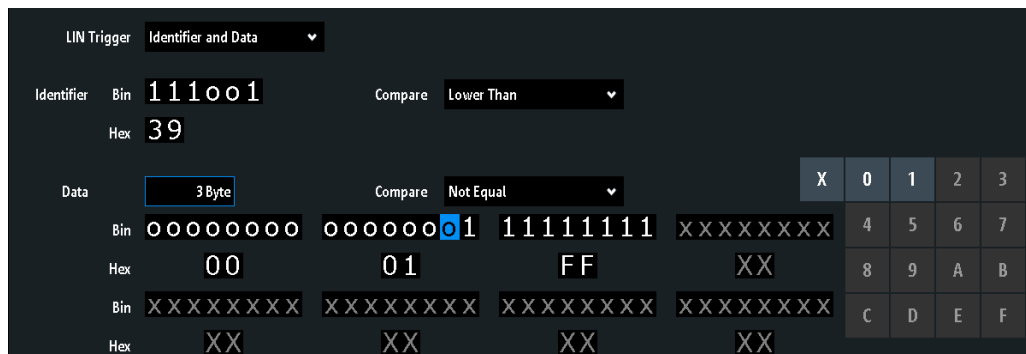

Figure 12-32: Trigger setup to trigger on identifier and data patterns
- "Identifier and Data" Triggers on a combination of identifier and data condition. The instrument triggers at the end of the last byte of the specified data pattern. An example is shown in Figure 12-32. See "Identifier condition" on page 275 and "Data condition" on page 276.